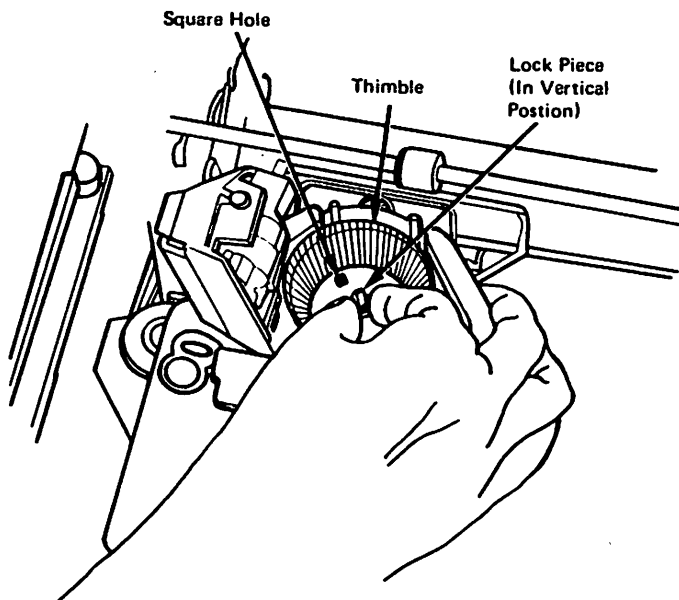

Figure 39 Removing the print thimble
4. Remove the print thimble by gently holding the center hub and lifting it from the carriage (Figure 39).